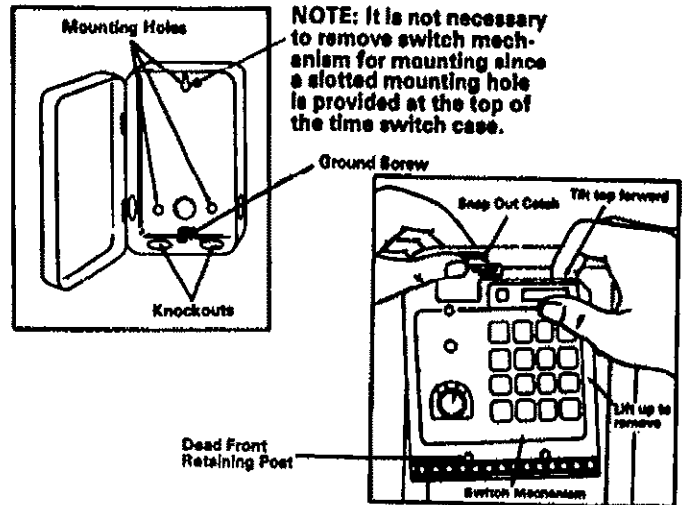

Fig. 1
**REMOVE DEAD FRONT (fig. 1):** An electrical insulator called a "dead front" is installed to prevent accidental contact with the electrical connections, and a possible shock hazard. Lift the left side of the dead front off of the retaining post and pivot it up and to the right to expose the terminal strip. Be sure to replace the dead front after making all wiring connections.
**CHECK WIRING:** Make sure all grounding leads are securely connected to a good earth ground. (See fig. 1) Check all wiring, then replace the dead front by pivoting it down over the locating post provided.